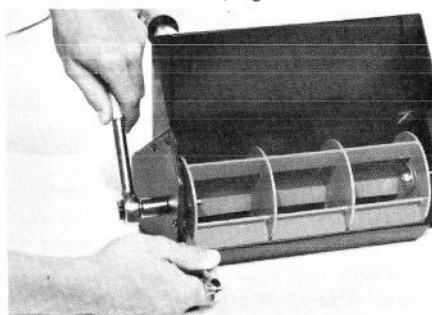

Figure 13
1. Remove the rotor pin, locknut and washer using a 9/16" open end wrench and a 9/16" socket (Fig. 13).